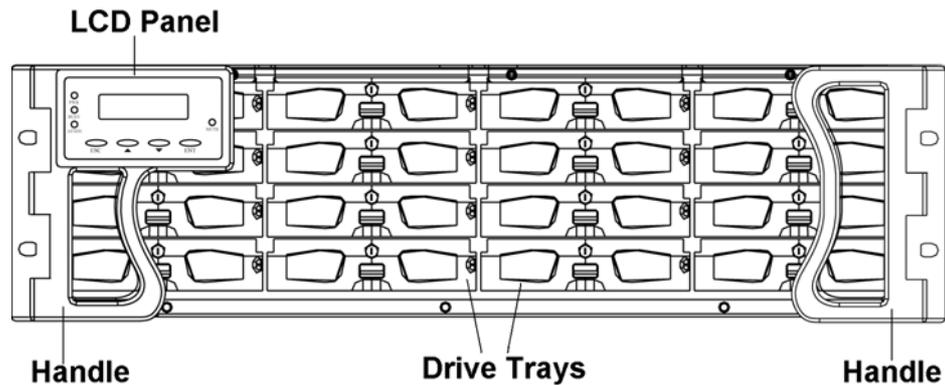

Figure 1-3: ES A16F RAID Subsystem Front View
As shown in *Figure 1-3*, the front of the ES A16F subsystems feature a 4 x 4 layout for sixteen (16) drive trays that are designed to accommodate sixteen (16) standard 3.5" SATA or PATA drives. The front side of the ES A16F RAID subsystem also has two (2) foldable handles (see *Figure 1-3*) mounted on the sides. These front handles are conveniently placed and simplify moving the subsystem enclosure into and out of a rack or cabinet. The left side front-handle houses a 16x2 character LCD panel that can be used for subsystem configuration, troubleshooting and status checking.